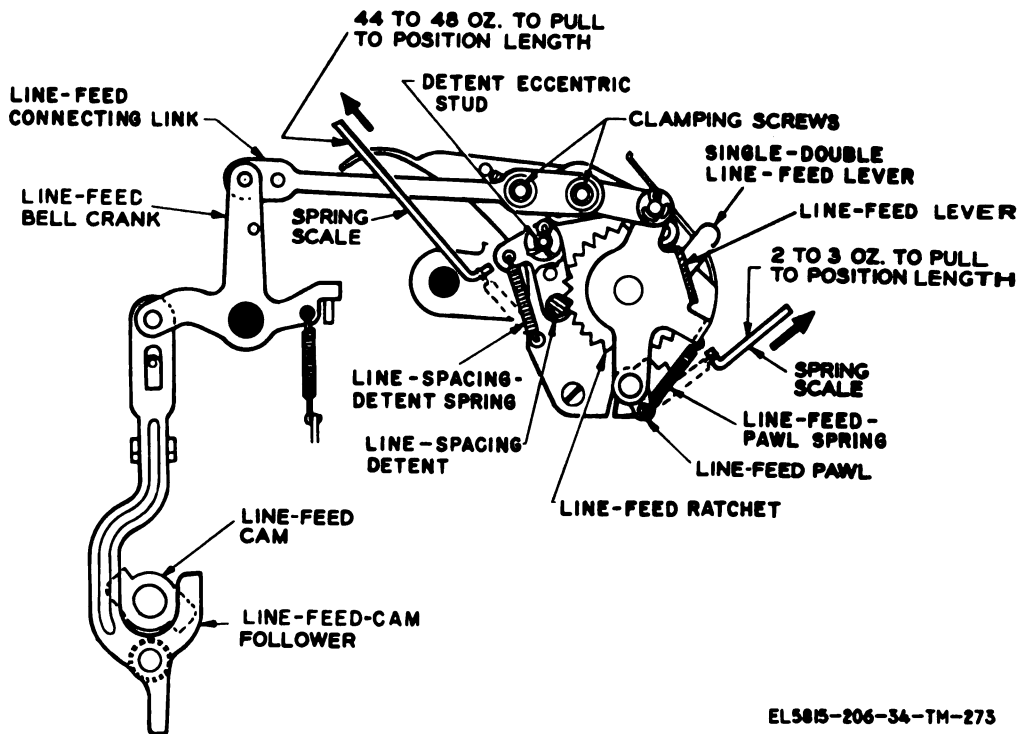
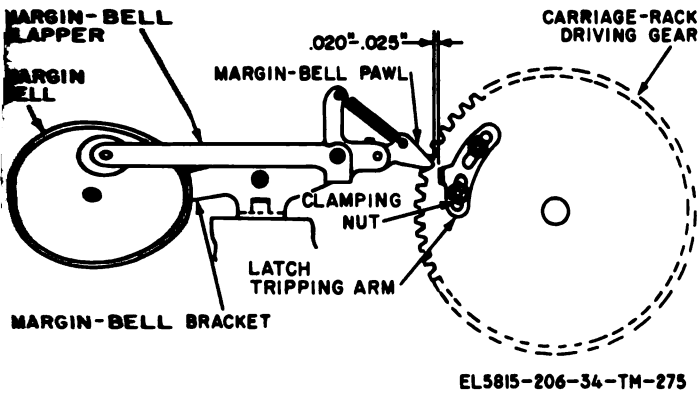

Figure 3-201. Line-feed mechanism, side view (TT-4A/TG and TT-698/TG ).
Figure 3-203. Margin-bell and bracket adjustment.
(fig. 3-201 and 3-202)
(1) Loosen the clamping screws (fig. 3-201). Select the line-feed combination and turn the motor manually until the line-feed-cam follower is against a high part of its cam. Rotate the line-feed lever until the platen has advanced one line space. Tighten the clamping screws. Continue turning the motor until line-feed operation is completed.
(2) Check the requirement (a(2) above) visually.
**3-235. Margin-Bell and Bracket Adjustment (fig. 3-203)**
(1) The margin bell should ring when the carriage has moved 66 spaces from the left-hand margin.
(2) There should be a clearance of 0.020- to 0.025-inch between the margin-bell pawl and the pawl trip arm at their closest point when the carriage is 66 spaces from the left-hand margin.